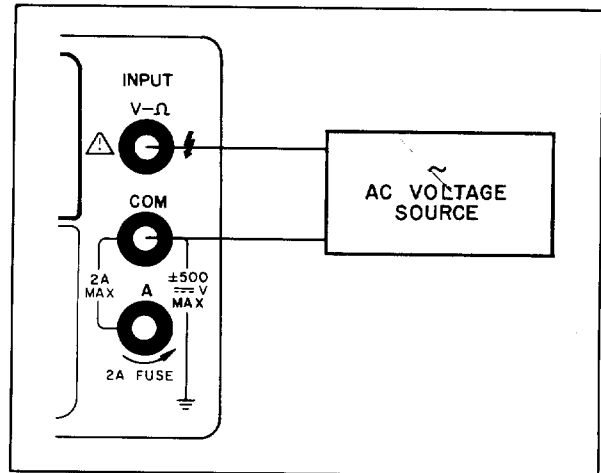

Figure 3-5. AC Voltage Measurement.
- c. Connect test leads from the Multimeter V $\Omega$  (high) and COM (low) terminals to the voltage under test as shown in Figure 3-5.